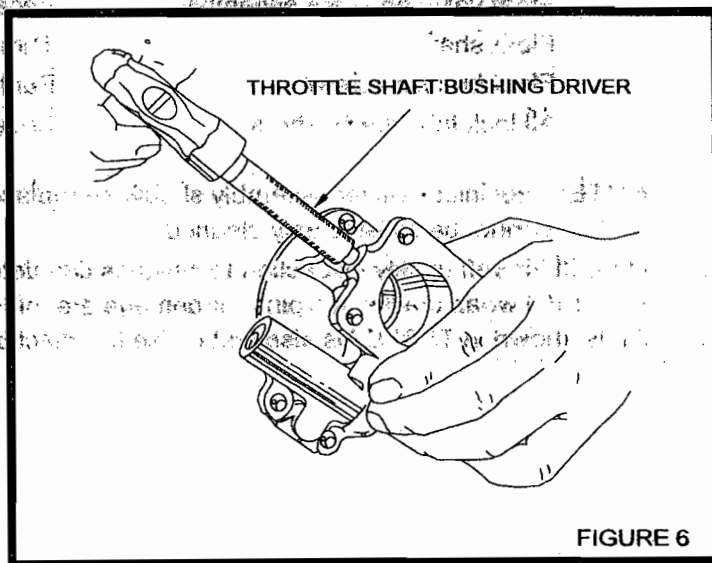

FIGURE 6
- 28) Lightly coat the bushing with Loctite RC-680 per Loctite's recommended instructions. Install throttle shaft bushings using tool M-86 bushing driver. Place bushing (44) on driver and tap into place, repeat on opposite side. See Figure 6. Cure in location from two to four hours. Heat not to exceed 110°F may be used to speed curing.